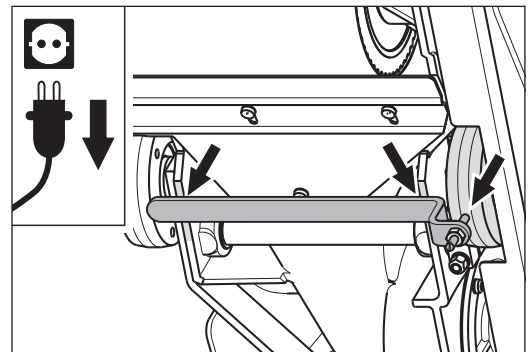
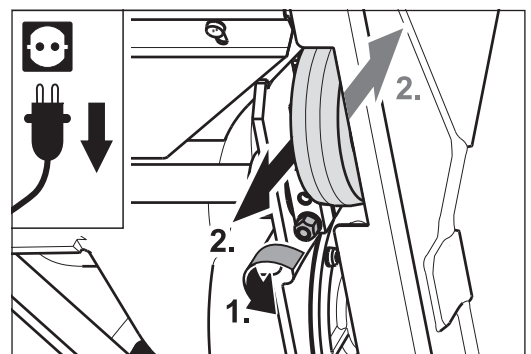

Fig. 44 Remove the current setting fixture from the right-hand wheel (seen from below).
Fig. 46 Release the screw on the right-hand wheel clamp (1.) and adjust the wheel (2.).
- 4 For setting, first take the actual position of the adjustable wheel using the setting fixture (see tool bag). Position the fixture against the machine housing in such a way that it rests not only against the machine housing on both sides, but also at the adjustable wheel (Fig. 44). If necessary, turn the threaded pin of the setting fixture. To do this, release the nut of the setting fixture.
- 6 Release the tension nut at the wheel clamp of the adjustable wheel (Fig. 46, 1.) and place the setting fixture against the machine housing again (Fig. 44).
- 7 Set the wheel in the required position by means of the setting fixture (Fig. 46, 2.) so that the wheel lining just still makes contact with the threaded pin when turning. Tighten the tension nut again.